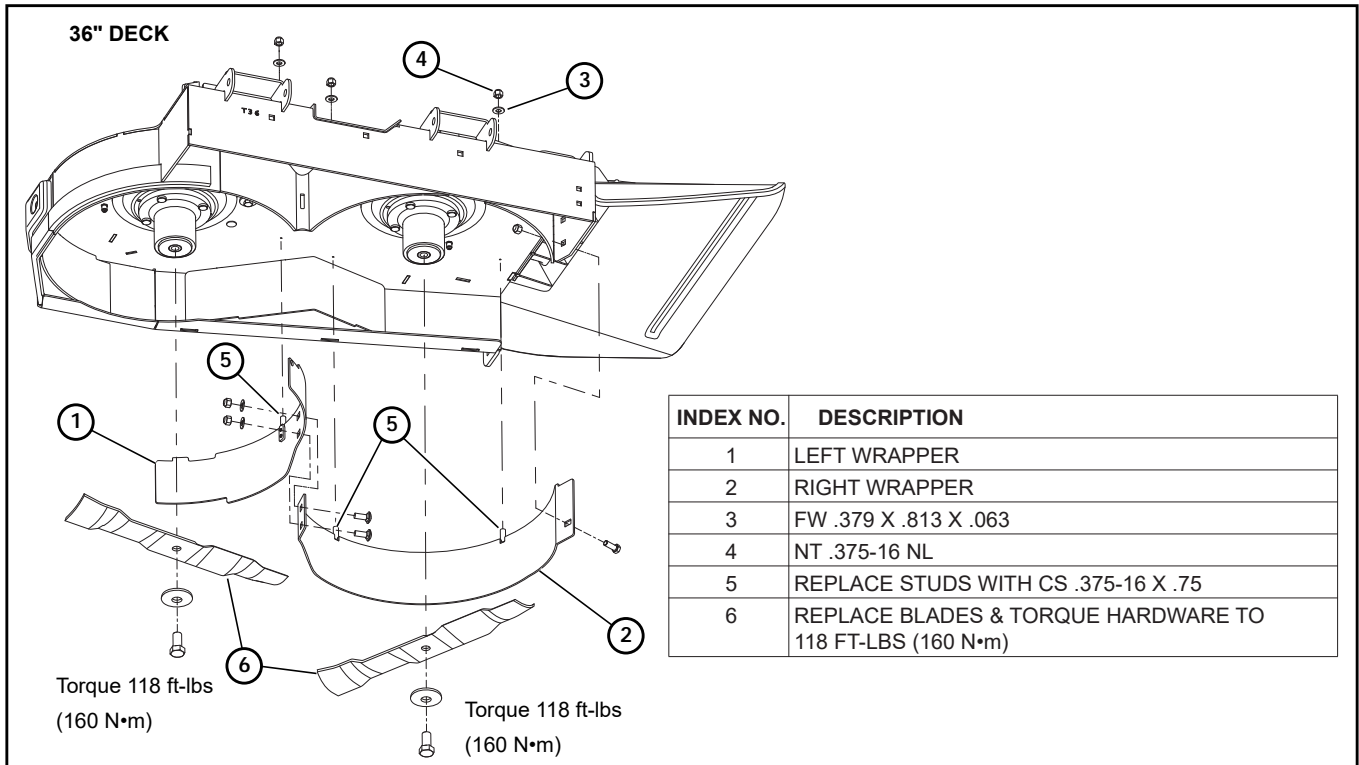

FIG. 6
3. Remove the baffles from the underneath side of the deck. Fig. 6 & Fig. 7
4. Replace the mulching blades with the original blades. Torque bolts on spindles to 118 ft-lbs. (160 N•m) when reinstalling the blades. Fig. 6 & Fig. 7